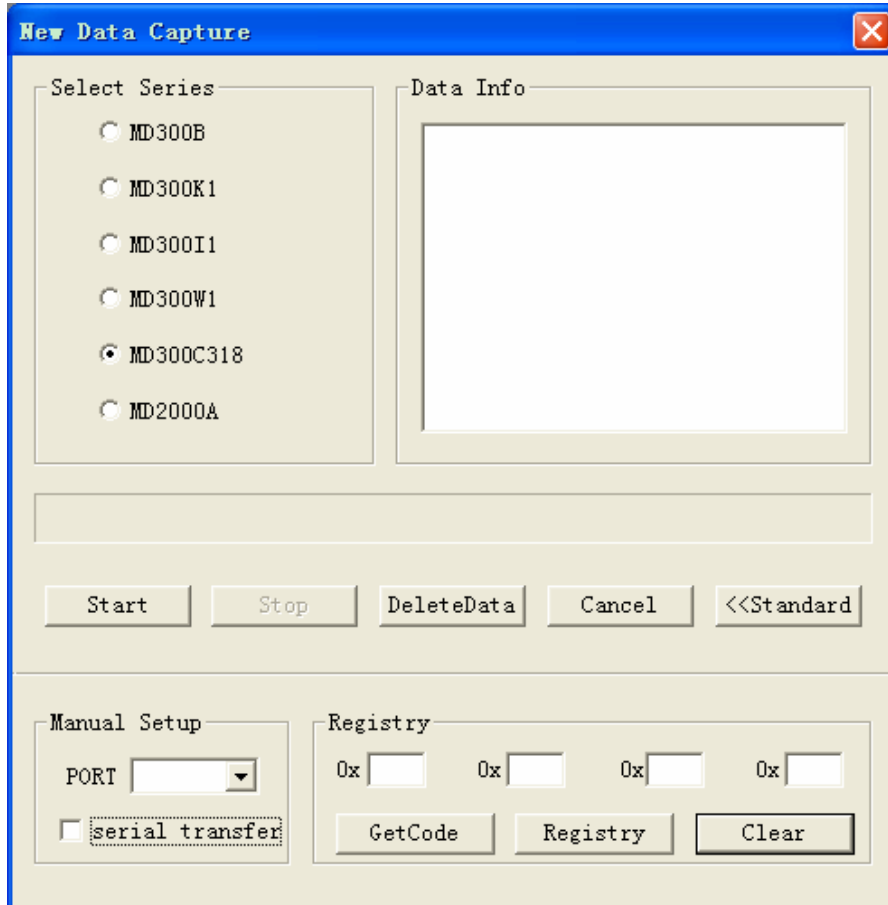

Figure 3-29
3.4.8 Note: Do NOT SELECT “serial transfer” when upload data by Bluetooth® wireless device from the oximeter MD300C318, as shown in Figure 3-29. Click “Start” button for data transmission.